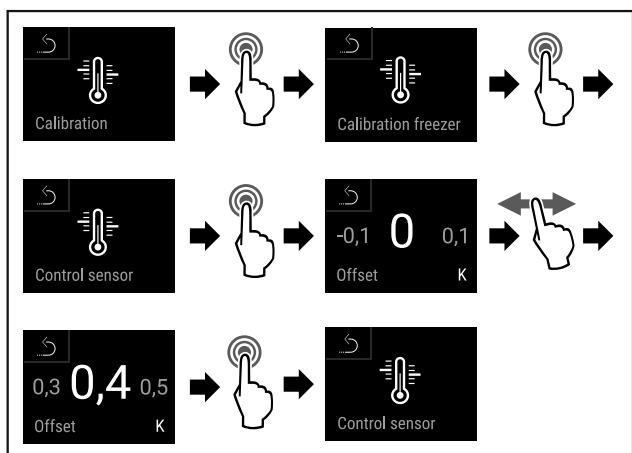

Fig. 140
- ▶ Complete steps (see Fig. 140).